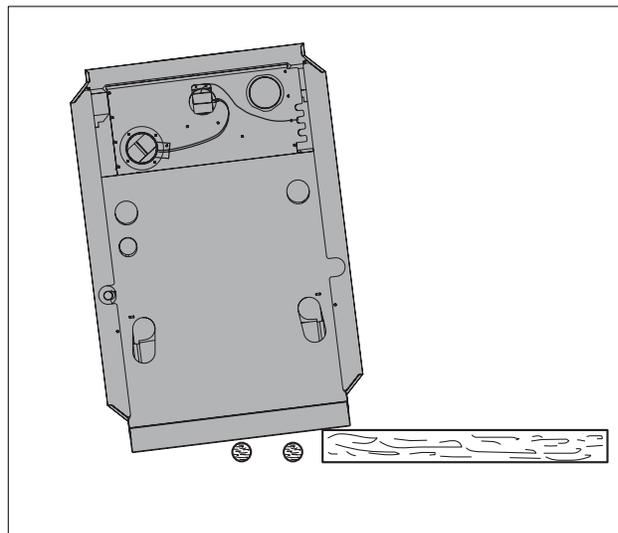

Fig. 4 Moving the boiler
- Lift the boiler from one side and slide to the side of the pallet. Push a pipe under the boiler as shown in Fig. 4 and roll boiler on several pipes to its final location.